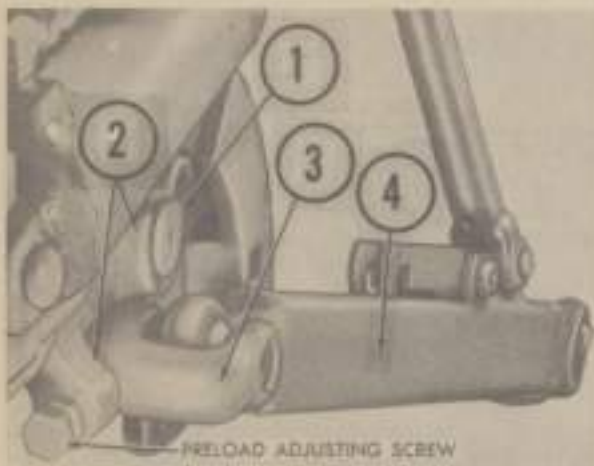

Fig. 172 — View of the torsion bar preload adjusting screw and locknut for Series IV D-17 tractors. Refer to paragraph 259 for adjustment procedure.
259. **TORSION BAR ADJUSTMENT.** Remove any weight or implement attached to the three point hitch. Loosen lock nut and back the preload adjusting screw (Fig. 172) out until torsion bar tube (3) is free to turn in the support brackets. Then, turn adjusting screw in just far enough to eliminate all free movement of the torsion bar tube and tighten the lock nut while holding the screw in this position.